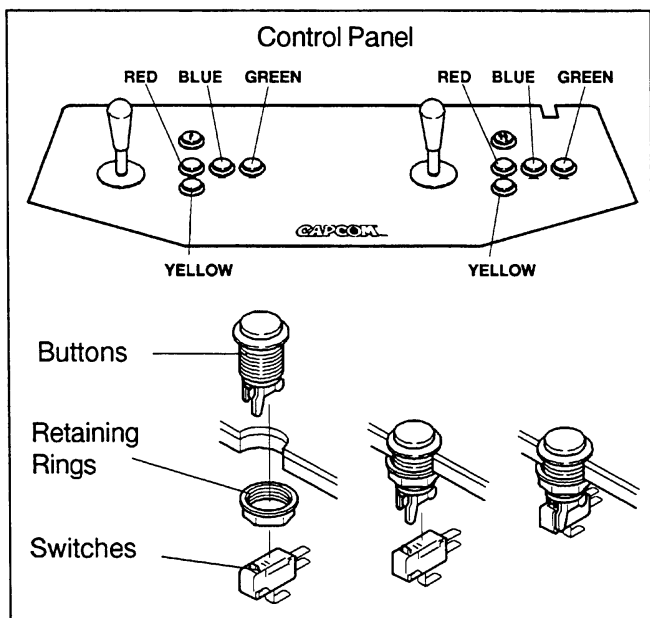

FIGURE 2
15. Install all buttons and retaining rings on the control panel as shown in Figure 2. Install a RED button to the immediate right of each joystick, install a BLUE button to the right of the red one, and install a GREEN button to the right of the BLUE one. Install a YELLOW button below the RED one.
17. Install the switches on the buttons as shown in Figure 2. Orient the switches so that when a button is pressed, the red contact on the switch is depressed.